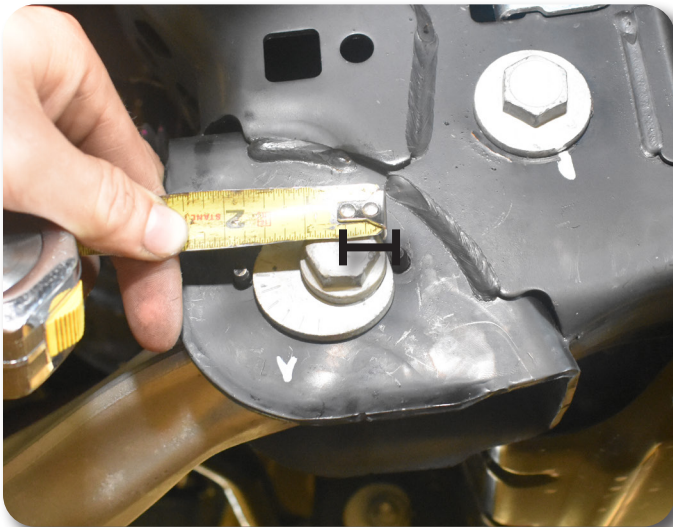

Figure 1
5. Starting with the front cam bolt. Note the position of the bolt head relative to the slot. The easiest way to do this is measure the distance from the center of the bolt head to the inner pin in the cross member **Figure 1**. Record this measurement.